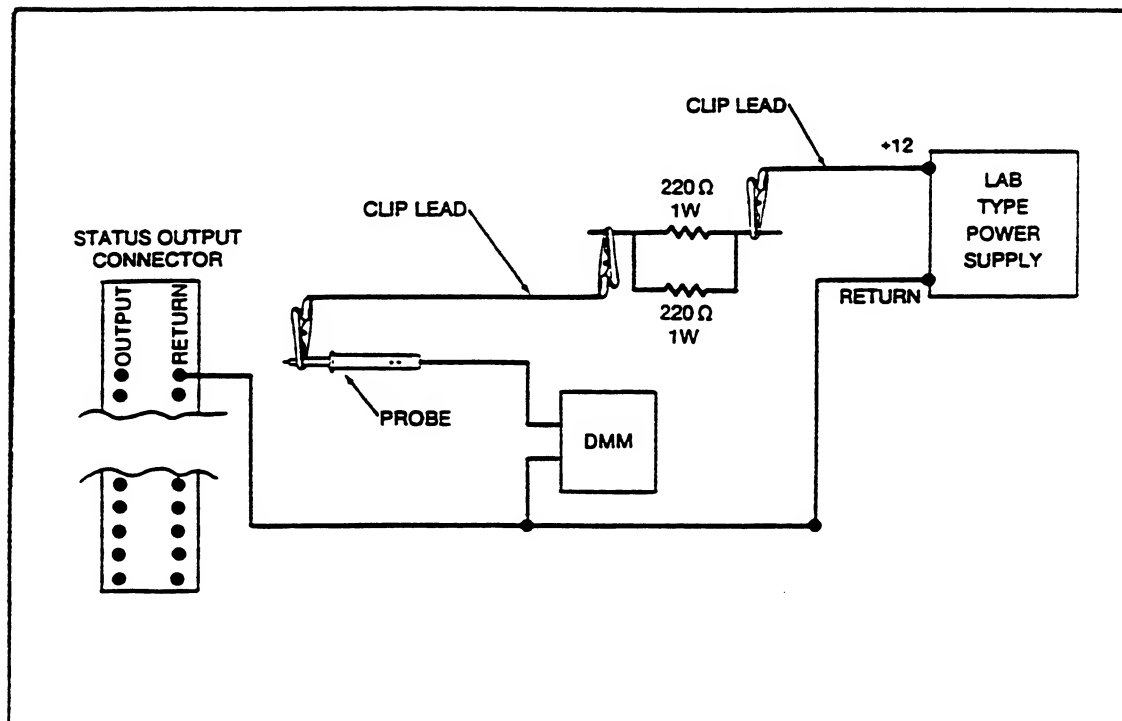

Figure 168-6. Interconnecting Output Test Equipment
6. Testing the output drive capability of each channel requires an external voltage source, a current limiting/pull-up resistor, and a DMM, interconnected as shown in Figure 168-6 and described below: